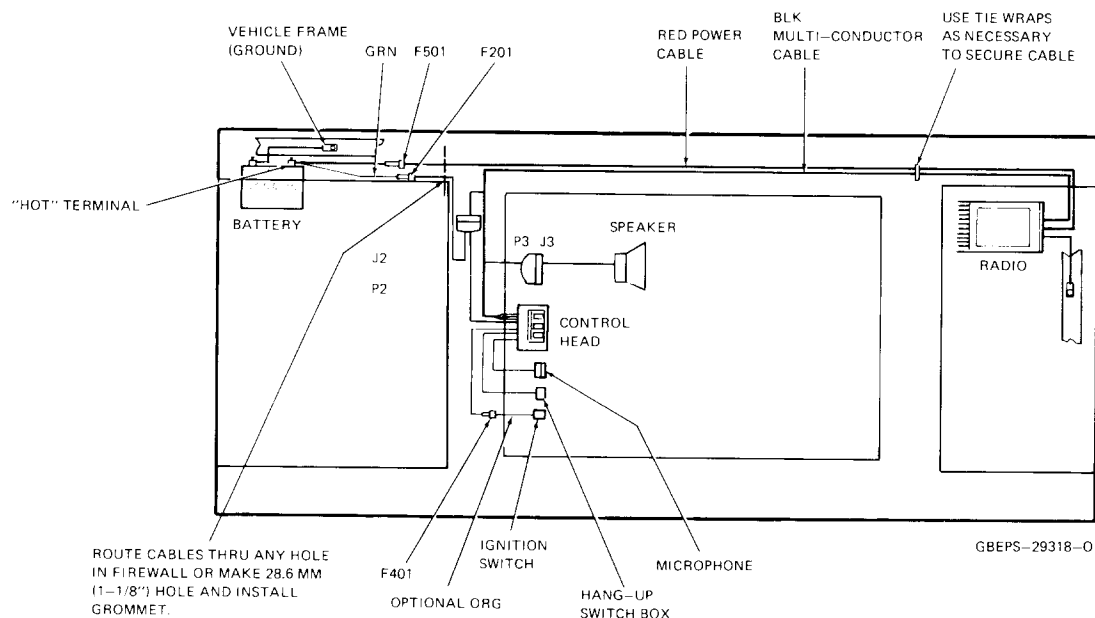

Figure 2. Power Connection Installation Details
4.1 The **MITREK PLUS** radio is installed in the same manner as the standard **MITREK** radio described in the instruction manual except for cable installation and speaker installation. Use Figure 2 in place of the power connection detail on the **MITREK** installation sheet. If routing of cables is impossible due to the Molex connectors J2 and P3, the pins can be removed from these connectors using a ST-946 Extraction Tool available from the National Parts department.
4.2 When installing the speaker, use Figure 2 in place of Detail B of the Control Head, Speaker, and Accessories section of the standard **MITREK** Installation Procedure sheet 68P81109E32.